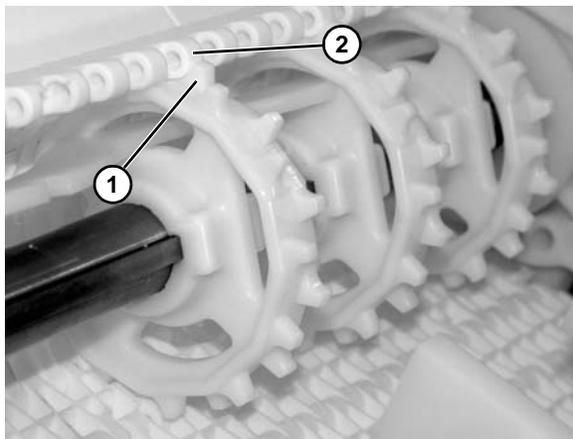

Figure 27
7. Wrap the belt around the drive end of the conveyor, making sure the sprocket teeth have engaged the belt, with concave teeth (**Figure 27, item 1**) mating with rounded section (**Figure 27, item 2**) of belt.